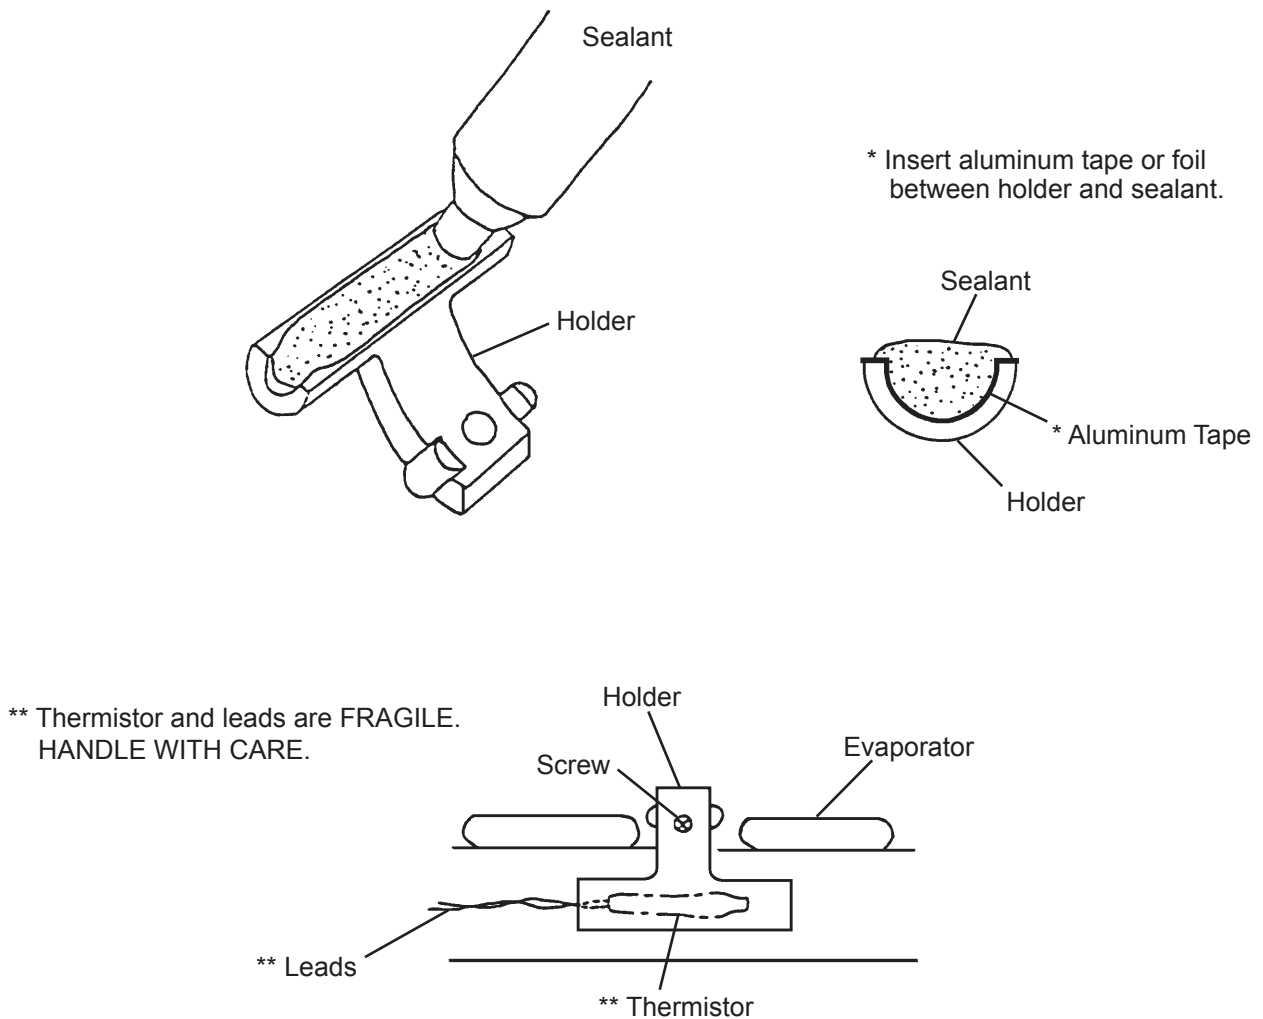

Fig. 13
- 5) Install the new thermistor in the reverse order of the removal procedure, by using a sealant (high-thermal conduct type). Fig. 13.